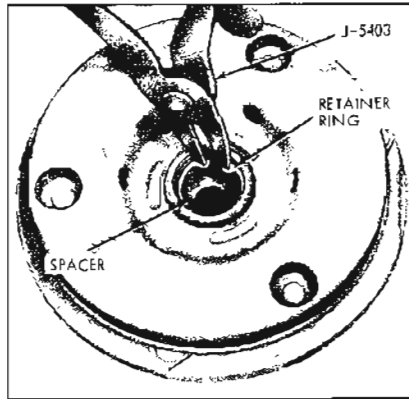

Figure 11-52—Removing or Installing Retainer Ring in Clutch Drive Plate
4. Using No. 21 Truarc Pliers (J-5403) take out retainer ring from hub of clutch drive plate (see Figure 11-52). Lift out spacer.
16. Reassemble spacer into hub of clutch drive plate (see Figure 11-52).
17. Reassemble retainer ring into hub of clutch drive plate (see Figure 11-52) using No. 21 Truarc Pliers (J-5403).